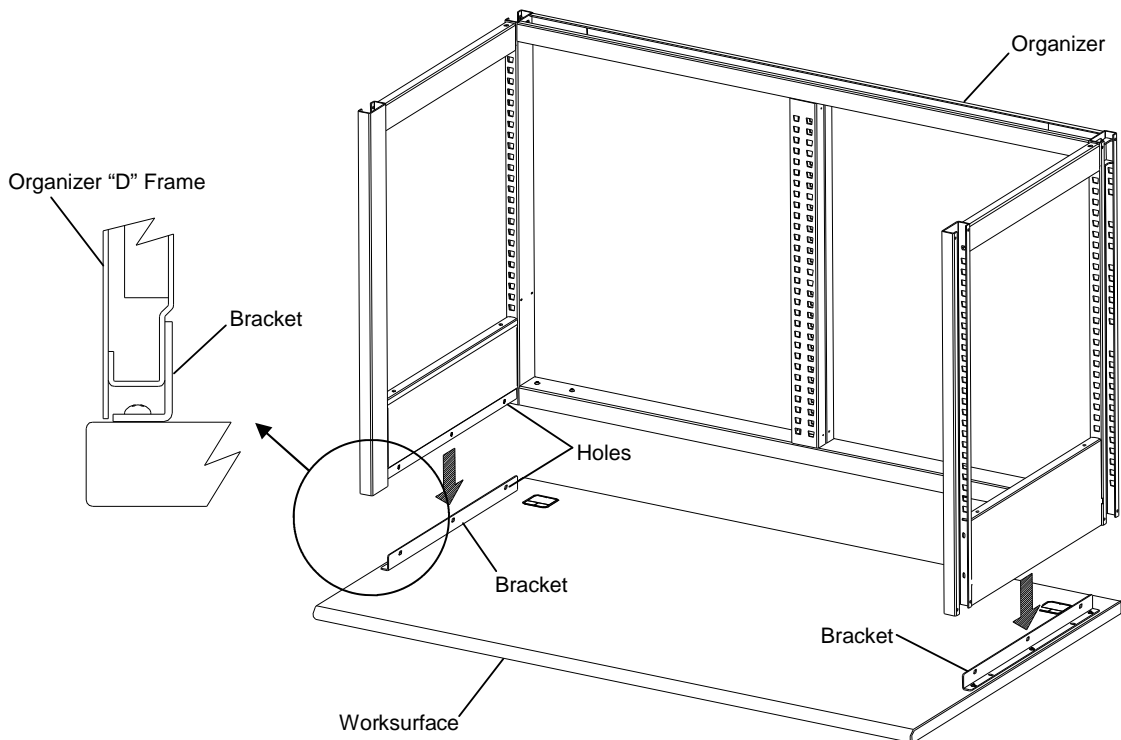

Figure 5.
4. With two people, lift the Organizer and position it over the brackets as shown in figure 5, aligning the holes in the Organizer "D" Frames with the holes in the brackets.